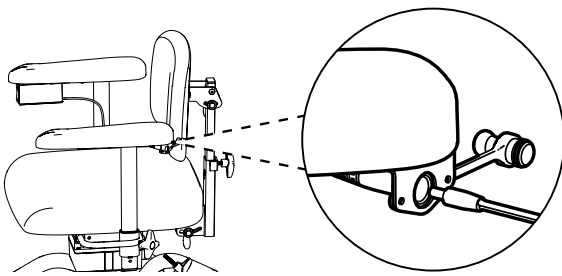

Figure 2.5. Connecting the plug to the charging outlet under the armrest.
1. Connect the charger plug into the charging outlet, see Figure 2.5. The charging outlet is normally located at the rear edge of the left armrest, but can also be located under the seat, for example.